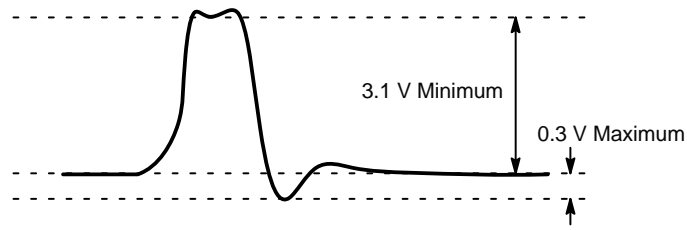

Figure 4. RG Clock Overshoot
- Reset Clock Operation: The RG1, RG23 signals must be capacitive coupled into the image sensor with a 0.01 μF to 0.1 μF capacitor. The reset clock overshoot can be no greater than 0.3 V, as shown in Figure 4, below: